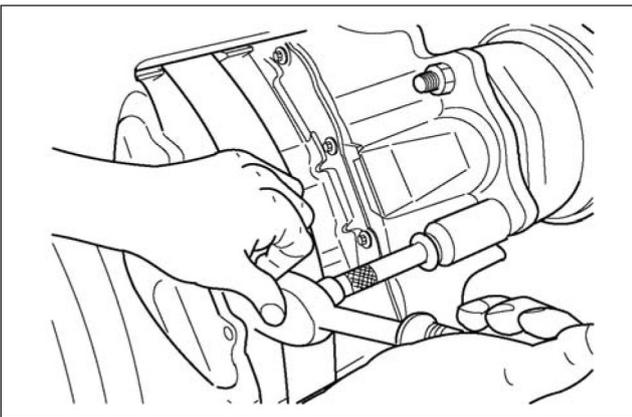

Fig. 1.13
1. Remove the service chambers. Mark the air hoses for reference during reassembly. Carefully remove the air hoses from the air chamber. Use the correct wrench to remove the air chamber nuts and washers. Fig. 1.13